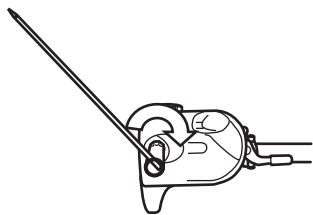

Fig. 8a
- c). Loosen locking nut (D3) with the socket wrench (E6) anticlockwise and remove it together with the spring washer (D4) and cover (D2). (See Fig. 8a, 8b)